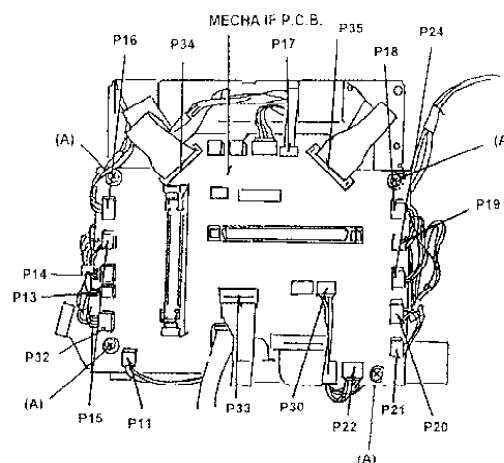
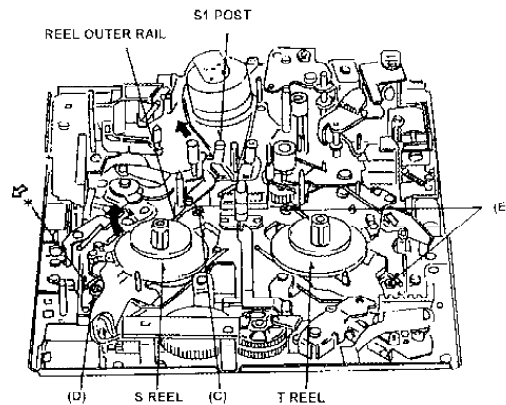
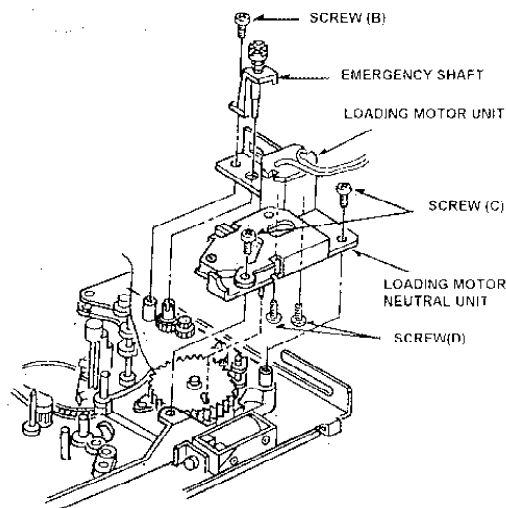

Fig. 6-3-1 Connection of S & T Reel Rotor Unit
Fig. 6-3-2 Removal of S & T Reel Rotor Unit
Fig. 6-9-1 Removal of Loading Motor
4. Disconnect the connector P34 and P35 on the Mech I/F P.C.Board as shown in Figure 6-3-1.
5. Move the S1 post to loading direction by manual ejecting method until the screw (C) can removing position.
8. Remove the 4 screws (C), (D) and (E) as shown in Figure 6-3-2.
- 4. Disconnect the connector P15 on the Mech I/F P.C.Board as shown in Figure 6-3-1.**
shown in Figure 6-3-1.
4. Disconnect the connector P20 on the Mech I/F P.C.Board as shown in Figure 6-3-1.
4. Disconnect the connector P21 on Mech I/F P.C.Board as shown in Figure 6-3-1.
5. Remove the Pinch Solenoid Unit (Refer to item 6-7).
6. Remove the Pinch Solenoid Lever. (Refer to item 6-8).
7. Unscrew the screw (B), and remove the Emergency Shaft as shown in Figure 6-9-1.
8. Unscrew the 2 screws (C) and remove the Loading Motor Neutral Unit as shown in Figure 6-9-1.
9. Unscrew the 2 screws (D) and remove the Loading Motor Unit as shown in Figure 6-9-1.